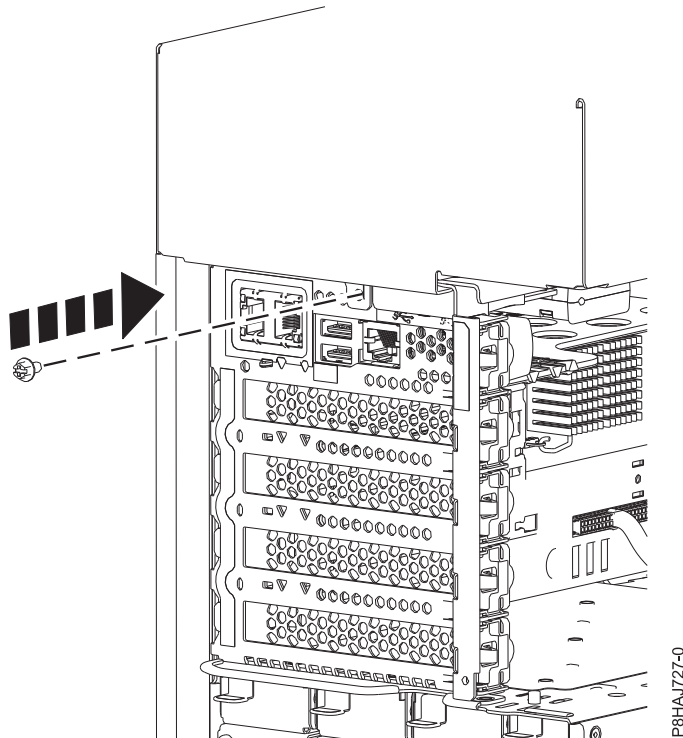

Figure 34. Installing the 8286-41A side cover screw
5. Install the side cover rear screw with a Phillips screwdriver as shown in Figure 34 on page 48.